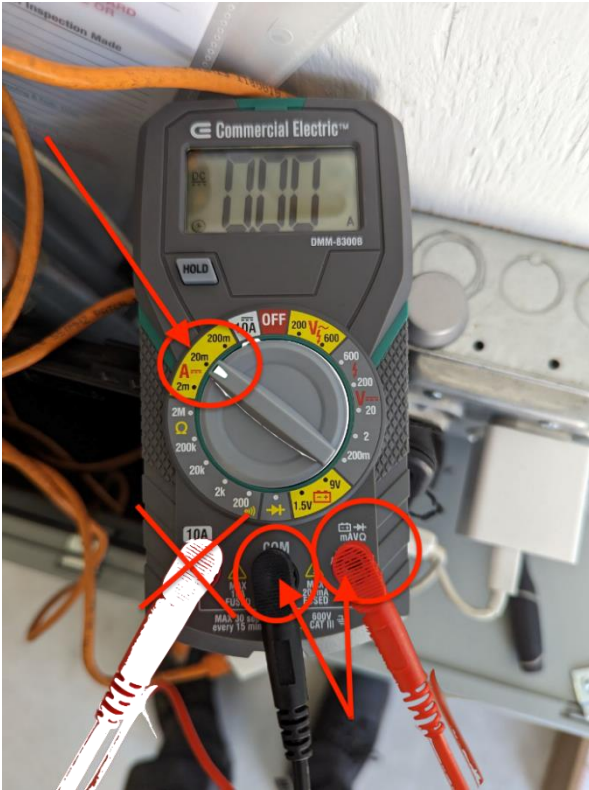

Figure 8-13: Example with Commercial Electric multimeter set-up to measure 4-20mA DC current
- See Figures 8-13 and 8-14 for examples of setting up typical multimeters to perform this test.